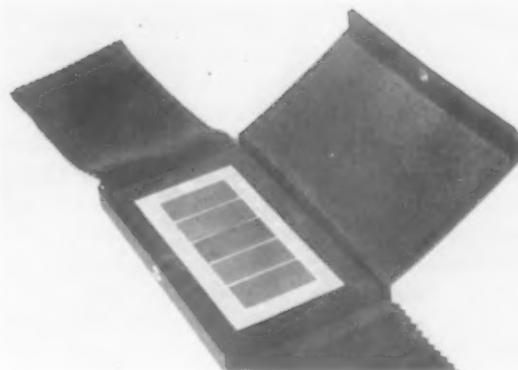

Fig. 7. Precision surface specimens are presently available in sets of five blocks.
Fig. 7. Diagram of electrolytical set-up for the determination of temperature at cutting edge. After Bickel and Widmer. *F*—top face; *R*—end relief surface; *L-M*—cratering or contact surface of chip; *A*—contacts for anode; *E*—electrode for scanning field potential; *K*—arc of cathode; *a*—distance of arc of cathode from tool point; *T₁*—isotherm 1; *a*—distance of isotherm 1 from tool point; *T₂*—isotherm 2; *a*—distance of isotherm 2 from tool point.
Further experiments conducted by Bickel and Widmer with Tempilac thermocolors ascertained various temperature zones near the cutting edge. The values thus obtained were used in an electrolytic model of the tool tip (7). Voltage at various points was regulated according to the temperatures established with thermocolors. See Fig. 7. The potential of the electrolytic bath was then determined in various places and this permitted the computation of the proportionate temperatures as indicated in Fig. 8. The maximum temperature at the cutting tip was 1340 deg F in comparison to 1040 deg F which had been found with the tool-work thermocouple measuring the tool-chip interface temperature when turning 0.35 percent C steel with a HSS tool at 118 fpm cutting speed, 0.200-in. depth of cut and 0.020 ipr feed.
At present, the available set of precision reference specimens consists of five blocks, the 20, 32, 50, 80 and 125 microinches. They are measured in arithmetical average. This group, shown in Fig. 7, allows the calibration of surface roughness instruments at sufficient points on the scale (or scales) to check the accuracy of the readings. Frequently several scales are used on such devices to expand the smoother values. These five blocks will usually allow each scale to be checked in two places, thereby evaluating the linearity of the instrument. Before using the blocks, they should be wiped off with a soft cloth to remove hard particles which could cause wear and damage. Although the surfaces are protected by a thin overplate of rhodium, it is possible to injure them by dirt.